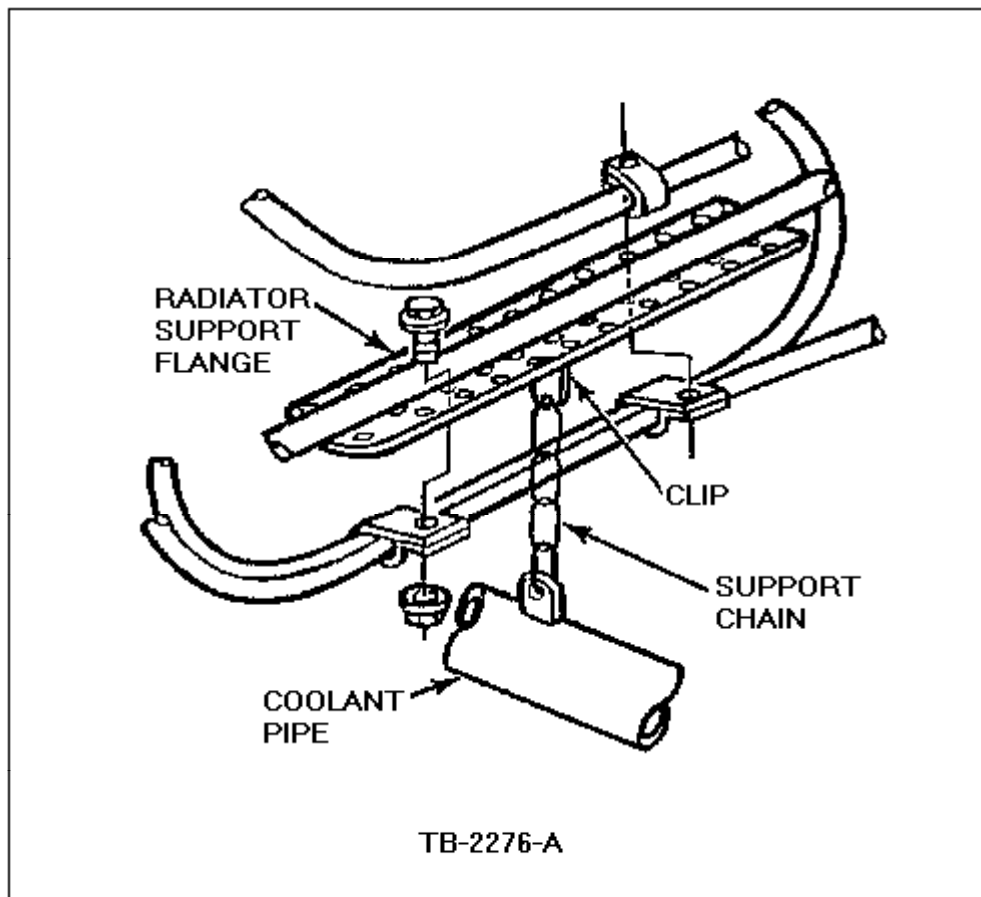

Figure 1 - Article 91-16-16
1. Remove one link from the chain, Figure 1. Reattach as described in Step 2.
2. Reposition the support chain in the sixth hole from the front of the flange on the radiator support rod, Figure 1.